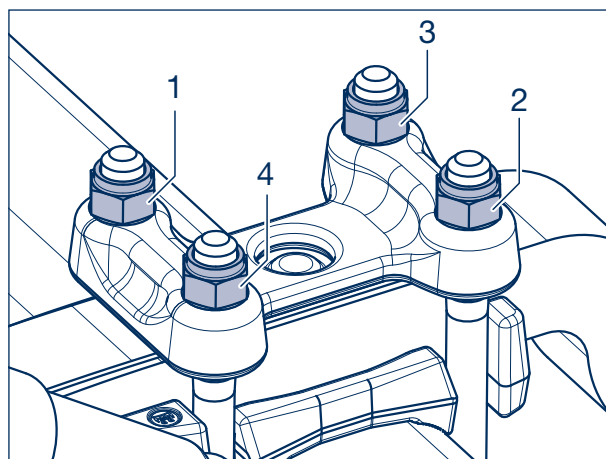

Figure 18
- ! [28] Using a torque wrench, tighten the lock nuts (1057, SW 32) (1330, SW 36) diagonally in the sequence 1-2-3-4 (see Figure 18). !